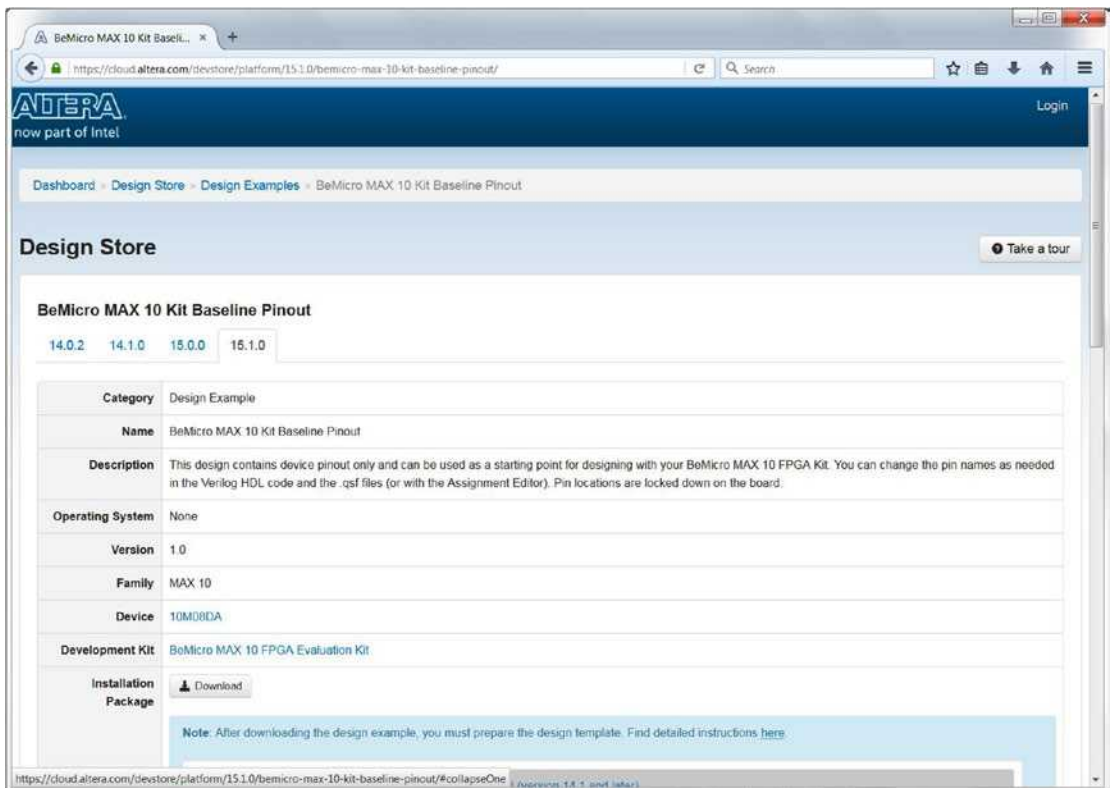

Figure 4-10. Altera Design Store—BeMicro MAX 10 Kit Baseline Pinout
- 11. Click **Download** on the BeMicro MAX 10 Kit Baseline Pinout page (Figure 4-10). The file name is BeMicro_MAX10_top.par. Go to the next step.